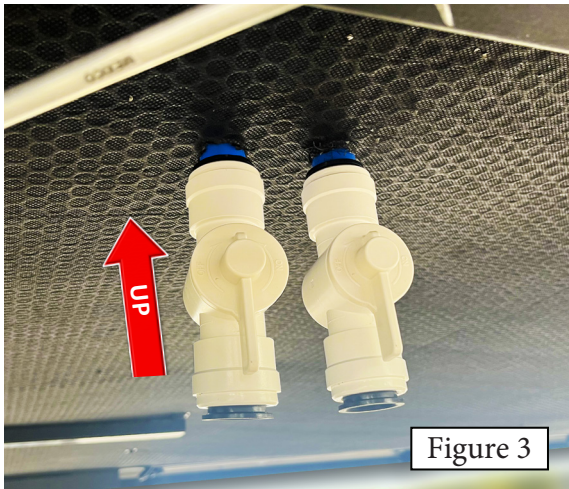

Figure 3
5. Install the second valve in the same manner. Be certain the operating lever on each valve is positioned so as not to interfere with the other valve when rotated (Figure 3).